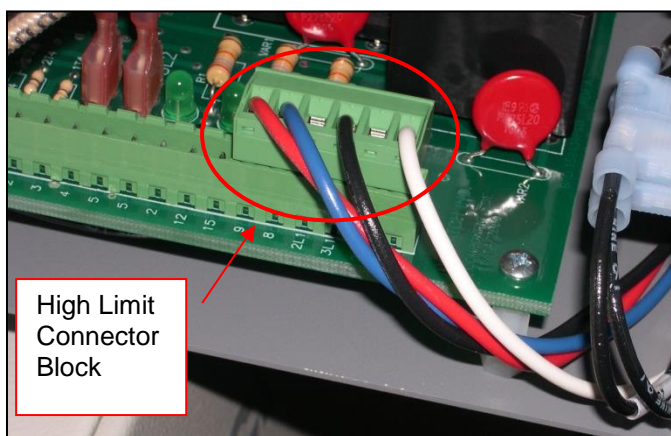

Figure 18. High Limit Connector Block on Control Board.
5. Disconnect High Limit instrument connector from circuit board (Figure 18).
10. Connect High Limit instrument connector plug to the circuit board (Figure 18).